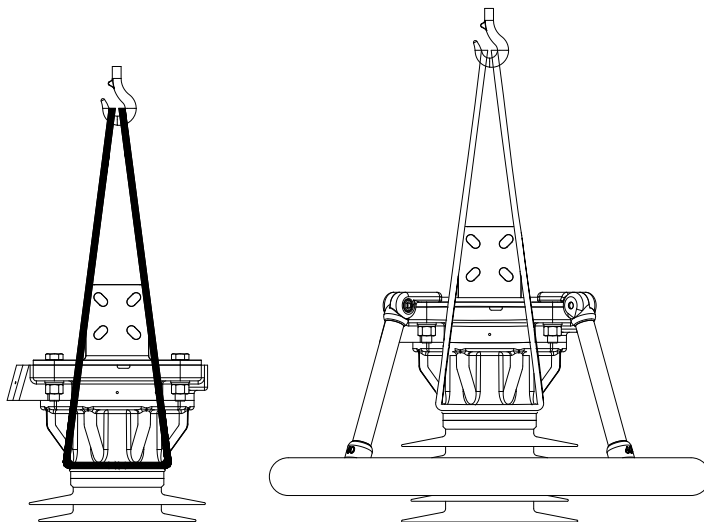

Fig. 3.1 Lifting methods
- Attach the loops below the top metal flange and around the neck of the housing (see fig. 3.1)